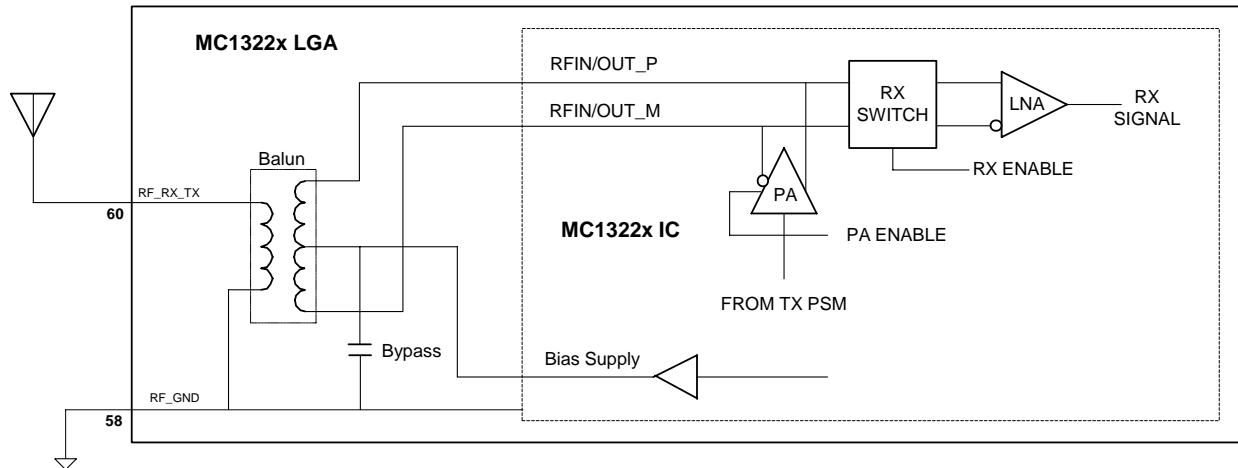

Figure 3-13. MC1322x Standard Single-Ended RF Connection
The MC1322x radio interface provides for lowest cost and highest integration as shown in Figure 3-13. The PiP concept in the LGA package contains components interconnected with the IC to provide the integrated RF network.
As illustrated in Figure 3-13, there is an integrated internal RX switch and separate differential PA on the IC. The IC signals RFIN/OUT_P and RFIN/OUT_M are bidirectional and are connected for both for TX and RX. When receiving, the RX switch is enabled to the internal LNA and the PA is disabled. When transmitting, the RX switch is disabled (isolating the LNA) and PA is enabled. The bias supply provides the reference voltage to the balun that converts a single-ended antenna to the differential interface required by the device.
- RF_RX_TX - as illustrated in Figure 3-13 this RF port has an on-package balun that converts the single-ended external signal to a differential port at the device silicon. This differential port has an on-silicon LNA and a primary complementary PA that is automatically controlled for receive or transmit. This RF_RX_TX port can be used for RX, TX, or both. It is the only RX input however.